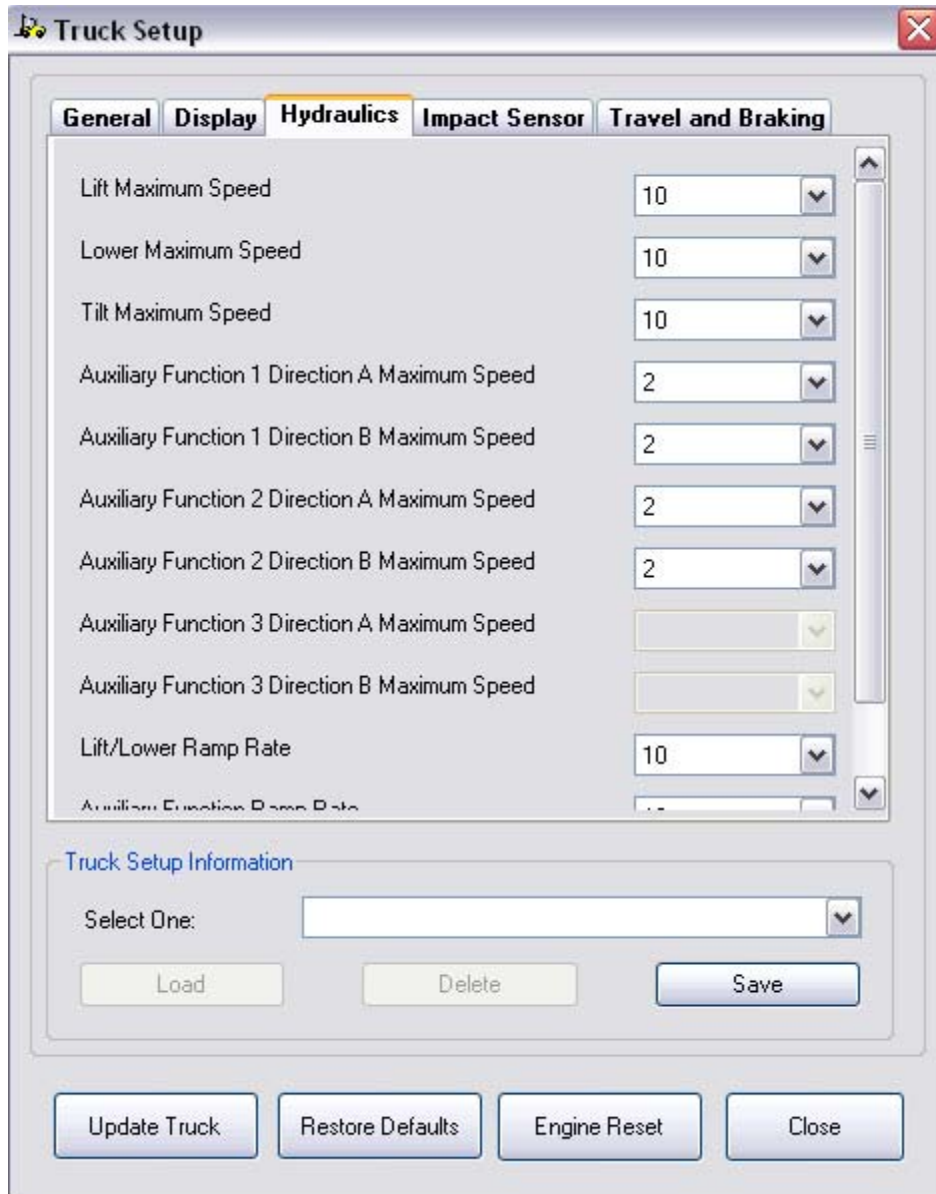

Figure 32: Truck Set-up window
1. Select **Truck Configuration >> Truck Set-Up**. This displays the **Truck Set-up** Window, as shown in Figure 32: